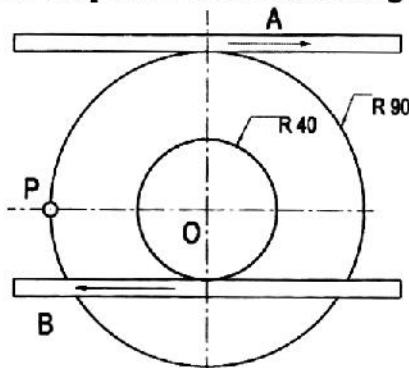

Fig. 4
4.(a) The attached wheel roll without slipping on the plates A and B, which are moving in opposite directions as shown in the Fig. 4. If velocities of plate A and B are given as  $V_A = 60 \text{ mm/s}$  to the right and  $V_B = 200 \text{ mm/s}$  to the left, determine the velocities of the center O and the point P shown in the Fig. 4.